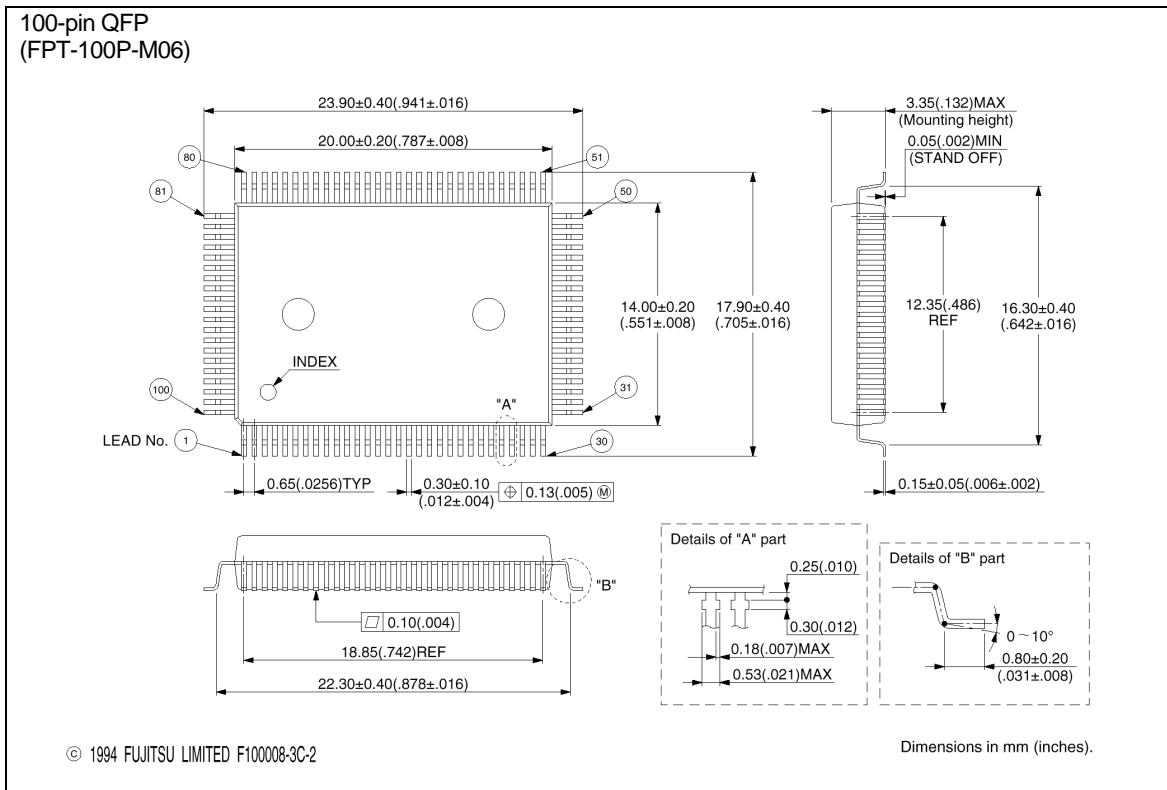

Fig. 1.4.1 Package Dimensions
Figure 1.4.1 shows the package dimensions of the MB90420/5(A) series.